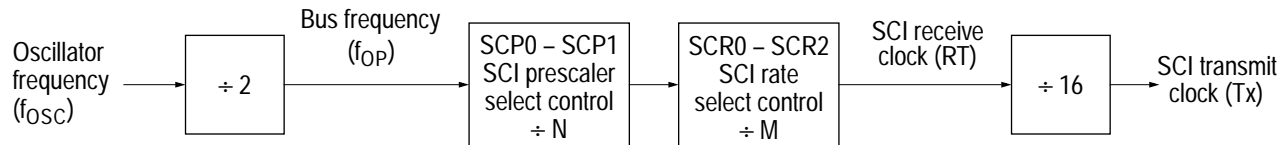

Figure 35. Rate generator division
Data transmission is initiated by a write to the serial communications data register (SCDR). Provided the transmitter is enabled, data stored in the SCDR is transferred to the transmit data shift register. This transfer of data sets the transmit data register empty flag (TDRE) in the SCI status register (SCSR) and may generate an interrupt if the transmit interrupt is enabled. The transfer of data to the transmit data shift register is synchronized with the bit rate clock (Figure 35). All data is transmitted least significant bit first. Upon completion of data transmission, the transmission complete flag (TC) in the SCSR is set (provided no pending data, preamble or break is to be sent), and an interrupt may be generated if the transmit complete interrupt is enabled. If the transmitter is disabled, and the data, preamble or break (in the transmit data shift register) has been sent, the TC bit will also be set. This will also generate an interrupt if the transmission complete interrupt enable bit (TCIE) is set. If the transmitter is disabled in the middle of a transmission, that character will be completed before the transmitter gives up control of the TDO pin.